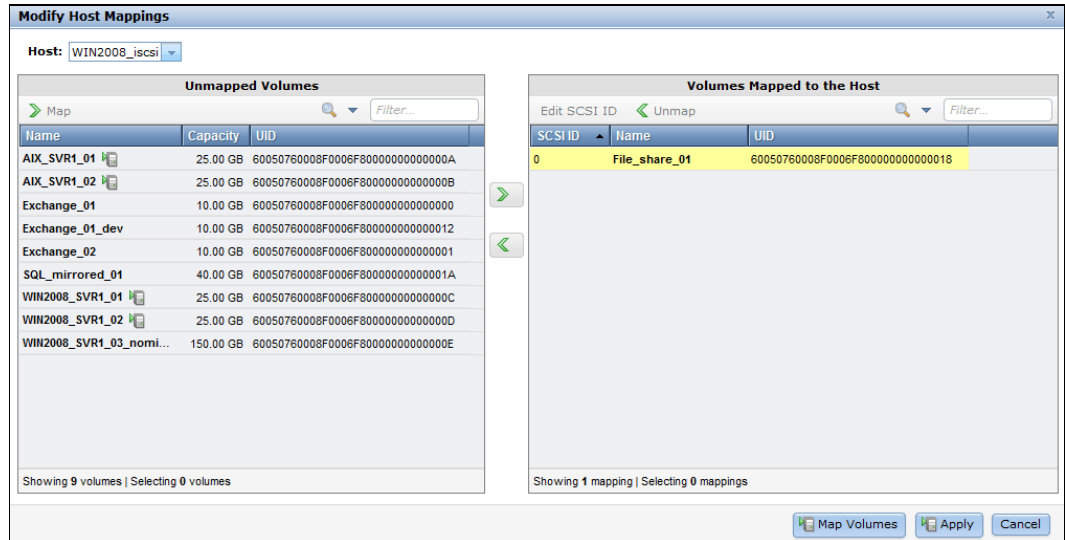

Figure 6-33 Map to host - select volumes
3. The Modify Mappings window opens, and your host and the newly created volume are already selected. Click **OK** and the volume is mapped to the host (Figure 6-33 on page 263).